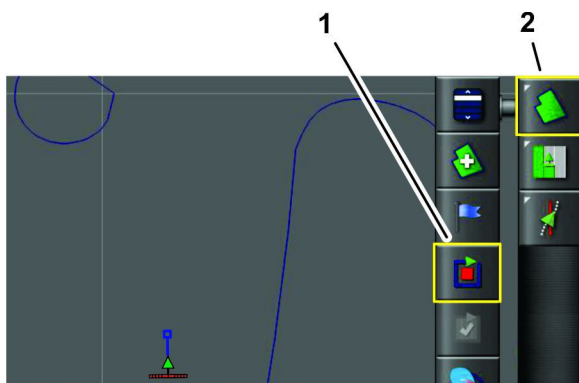

Figure 41
- Press the FIELD MENU icon, and press the RECORD FIELD BOUNDARY icon (Figure 41).